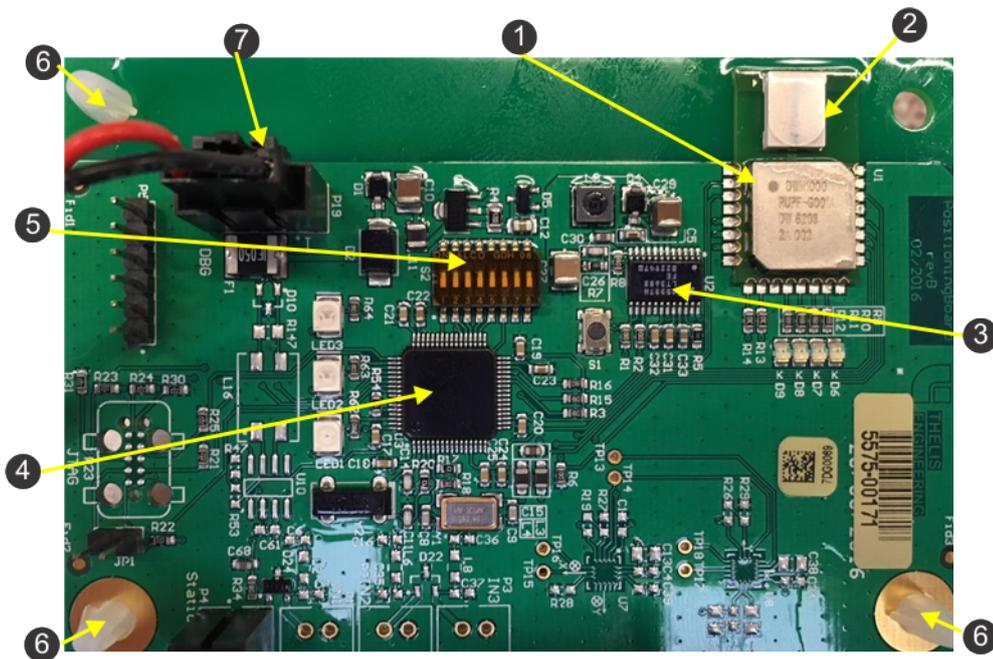

Figure 66: Components on the positioning signal board
5. The board must be located on the three supports shown in Figure 66: Components on the positioning signal board (page 63).